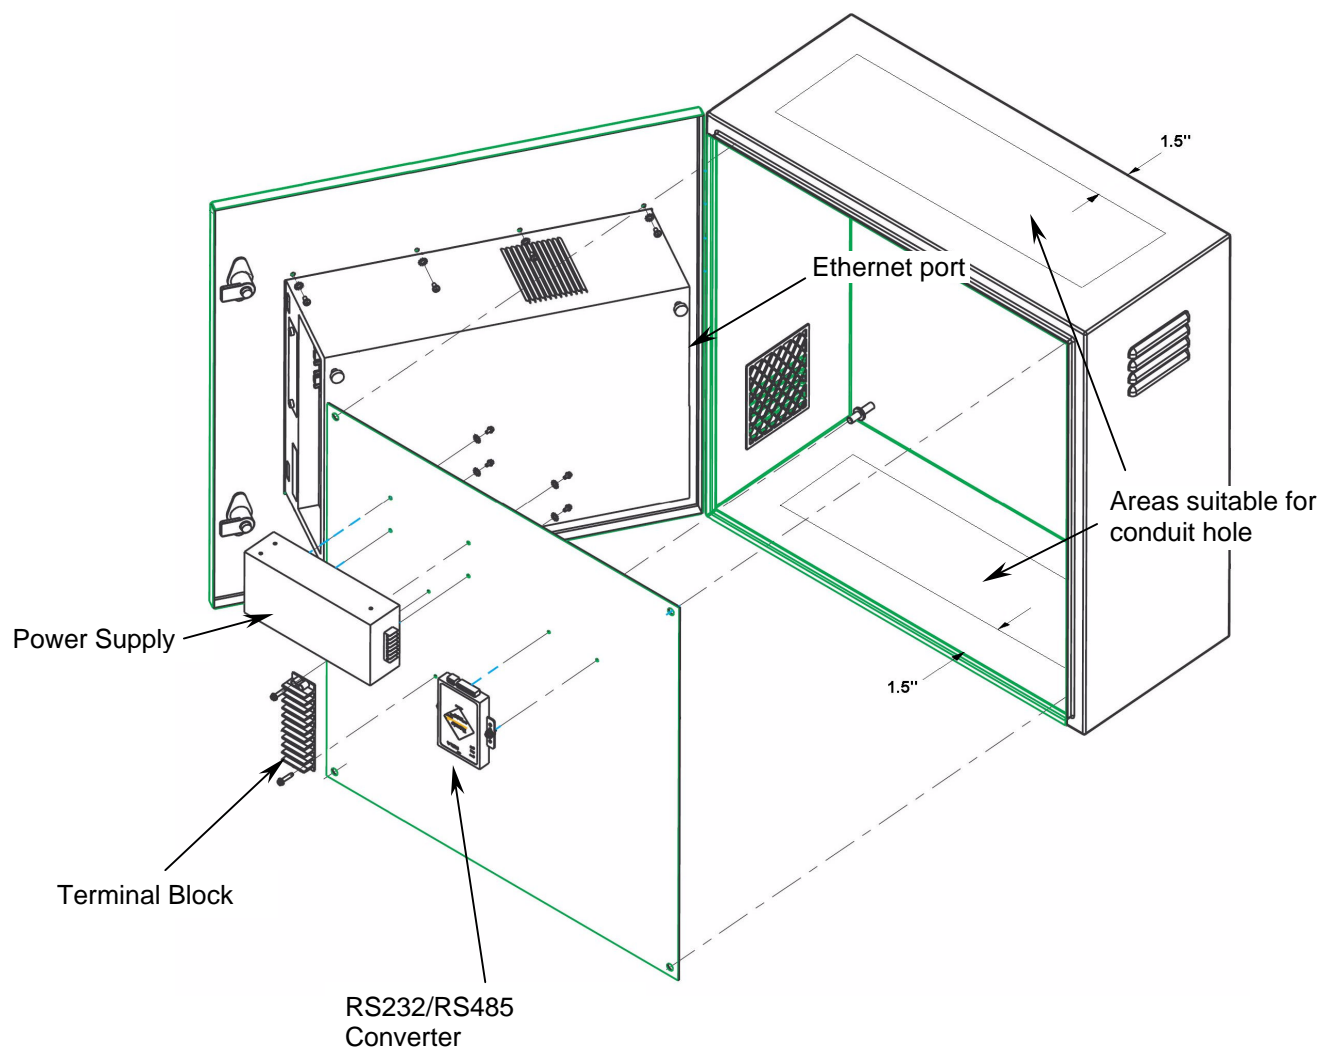

Fig. 4-28. HMI enclosure and devices
1. Add a conduit connection hole in either the top or bottom wall of the enclosure. Do not position the hole less than 1.5 inches from the edges of the enclosure. See Fig. 4-28 for area suitable for conduit hole.